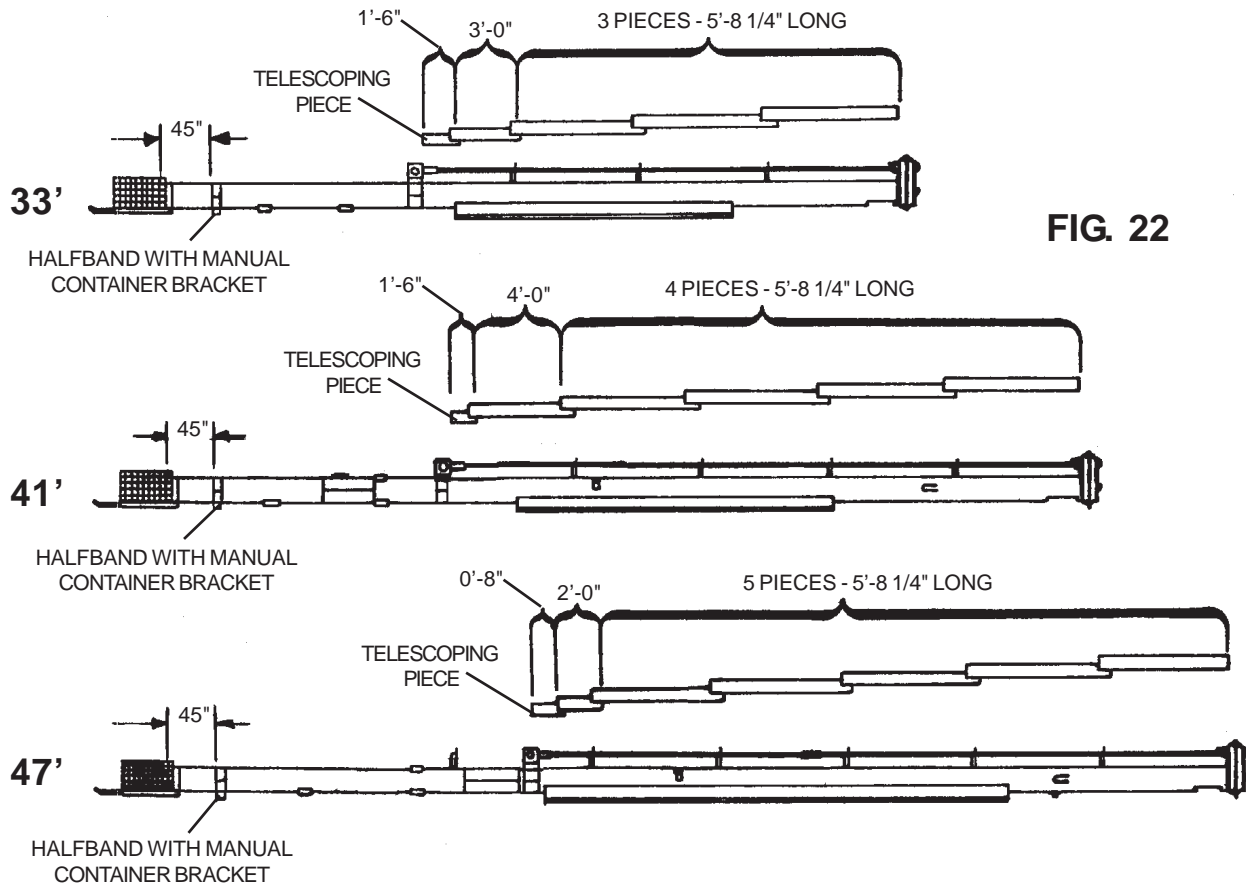

FIG. 22
Step 6. Using a plain (6" wide) halfband, fasten the halfband with manual container bracket to the auger housing 45" from the intake end of the auger tube. (See Fig. 22.)
Determine the location of the various lengths of drive shaft covers by placing them alongside the tube assembly in the order shown in Fig. 22 on page 27. Begin at the intake end of unit. Work up the unit, overlapping covers at each bearing stand. See page 23 for proper assembly of the drive shaft covers.